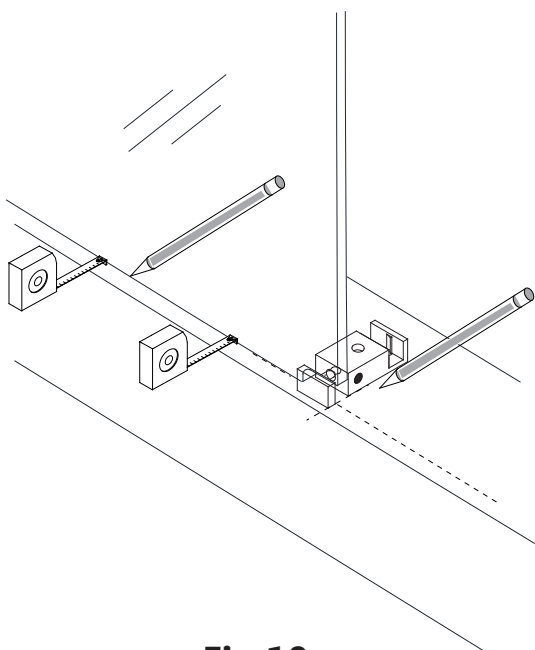

Fig 10a
9. Make sure that the **Stationary Glass (#02)** is parallel to the front edge of the threshold and mark it. Slide the **Guide Block (#12)** into the notch of the **Stationary Glass (#02)**, and align flush with the edge (Fig 10a). Mark its position and also mark the hole for drilling using a pencil (or center punch.)
Note: If installing the 72" model, also position the **Small Stationary Glass Bottom Bracket (#22)** with the edge of the **Small Stationary Glass (#23)** (Fig 10b) and mark its position and the hole for drilling. (**Fig 10a and 10b**)